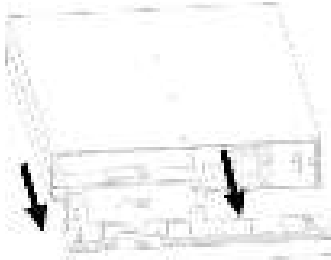

Figure 23: Removing the battery cover
3. Remove the battery cover (see Figure 23).